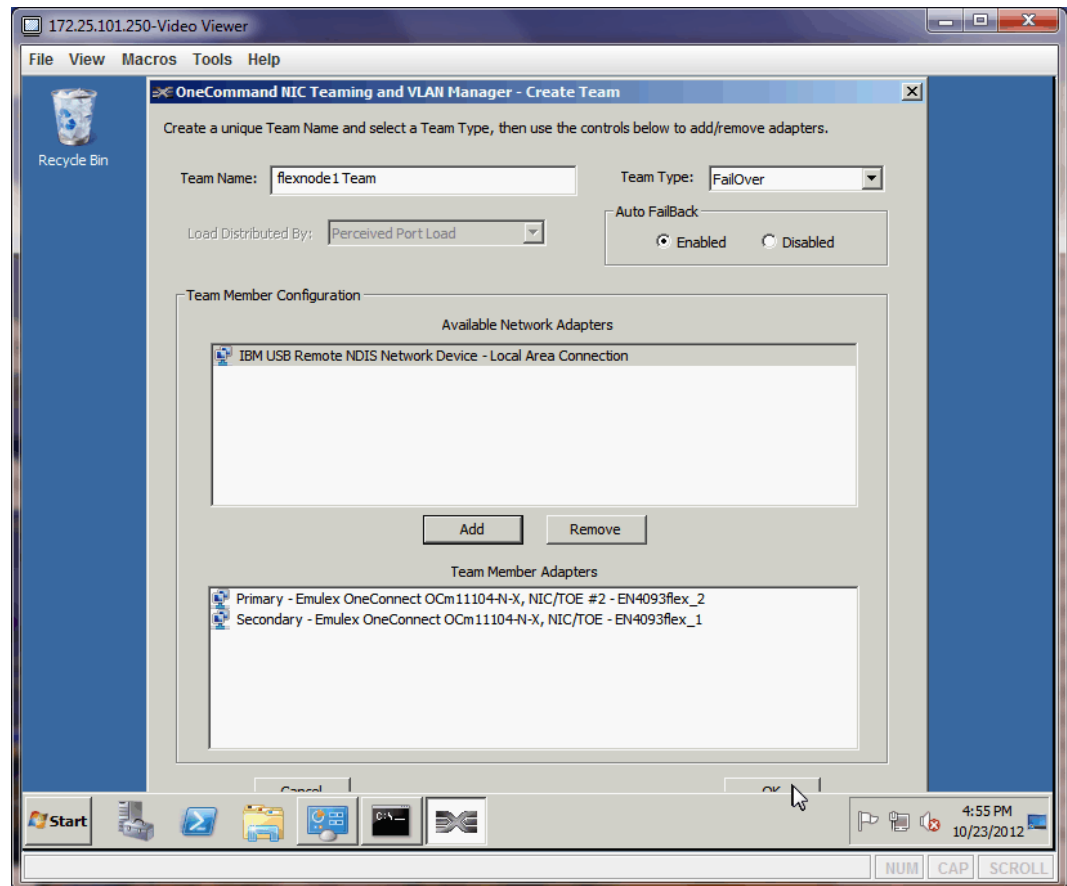

Figure 5-6 Building NIC Team using both Emulex adapters in our compute node
5. Give the Team Name a unique name and description and ensure that **FailOver** is selected in the Team Type pull-down menu. Select both Emulex adapters and click **Add** to move them to the Team Member Adapters section of the configuration window, as illustrated in Figure 5-6. Click **OK** to return to the previous window.